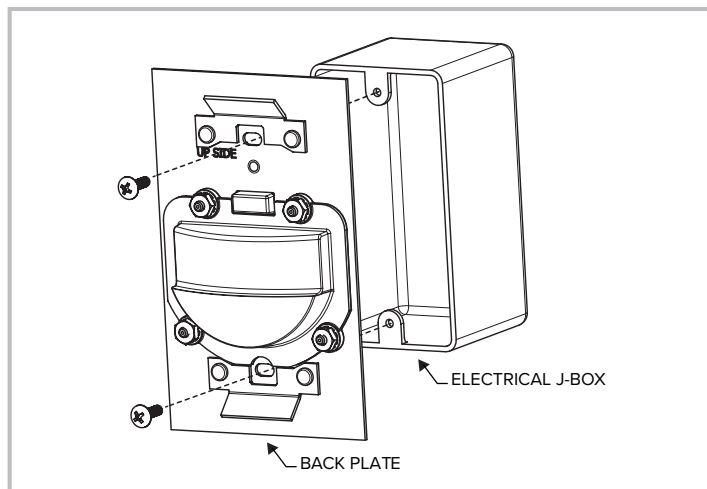

Figure 5: Installing the Back Plate
- Align the mounting holes on the Back Plate to the electrical box as shown in **Figure 5**. Secure the Back Plate. Make sure no wires are pinched and the gasket is compressed against the wall.